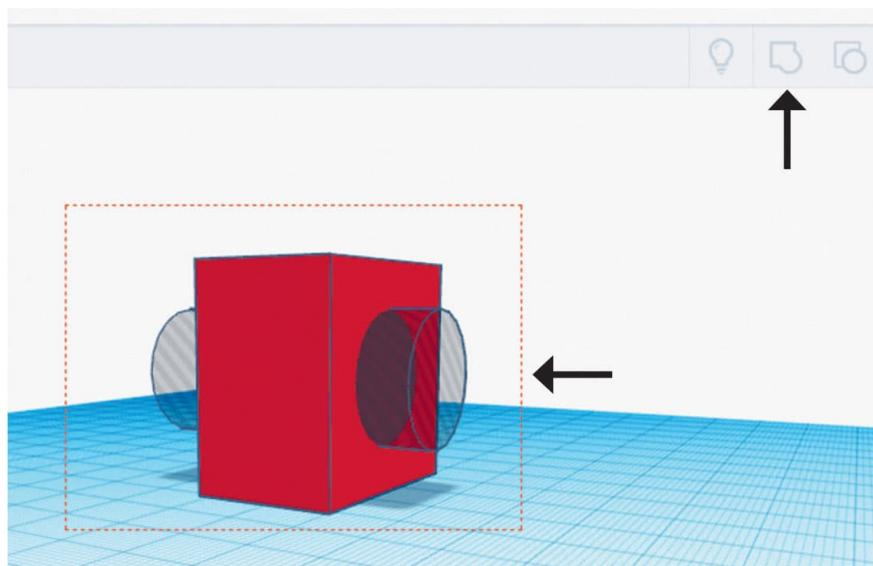
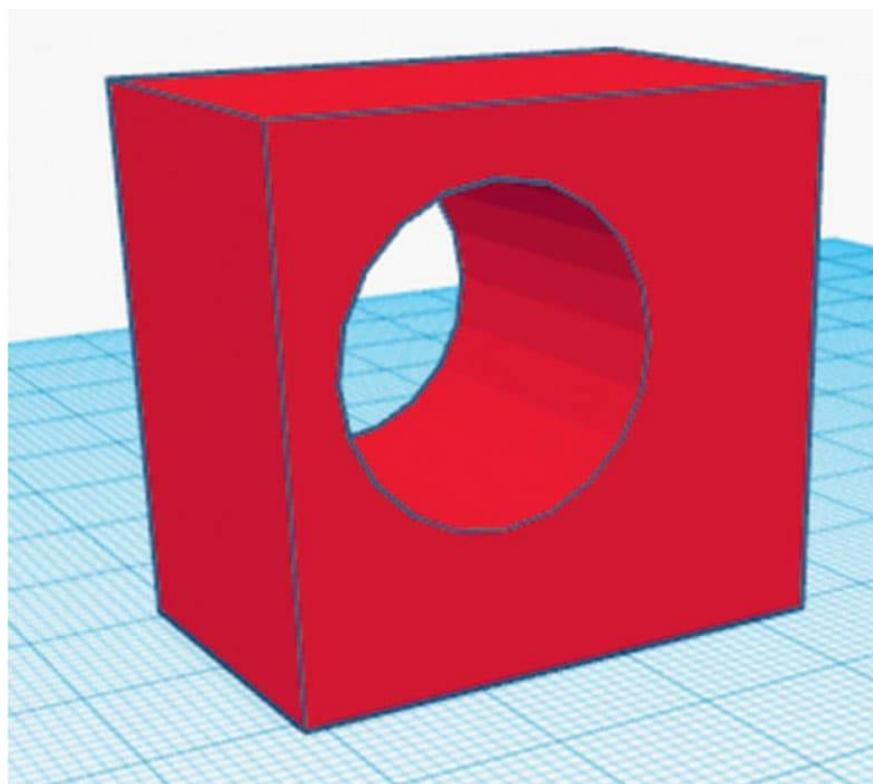

FIG. 4: Group the cylinder hole and the cube.
FIG. 5: Now there is a round hole created in the solid cube.
5. Select both objects and click the **Group** button (fig 4). This will merge the hole into the solid object, creating a hole in the solid object (fig. 5).